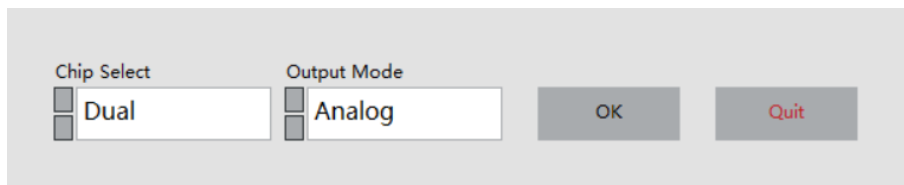
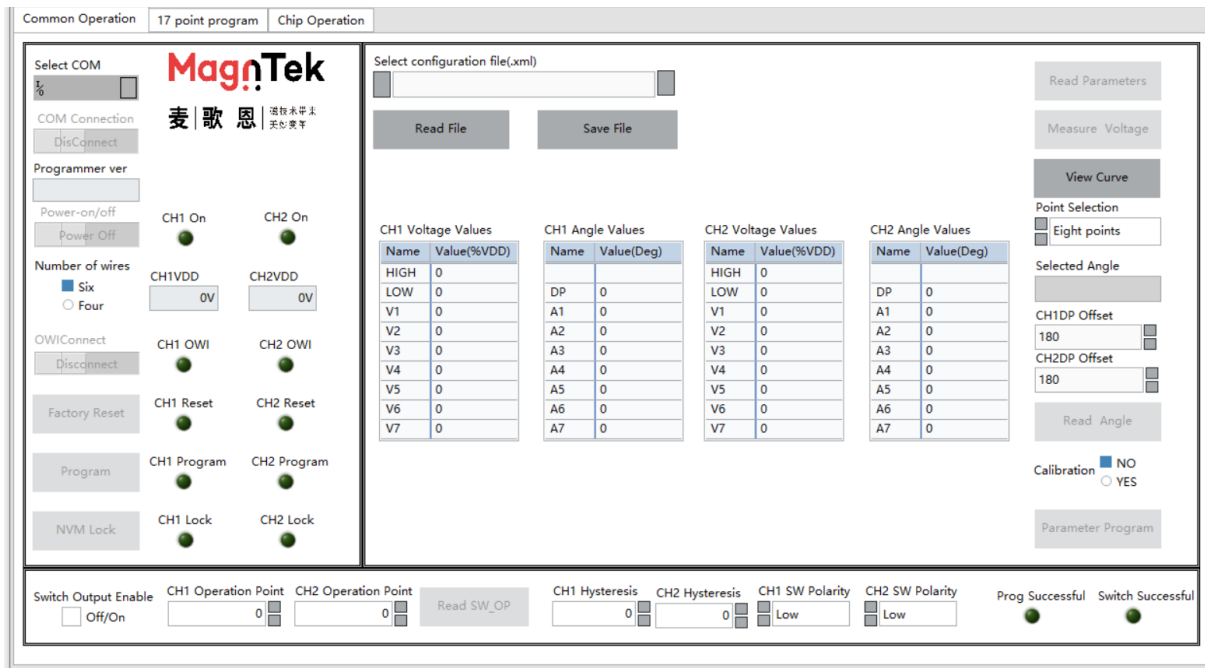

Figure 5.2.1 Chip mode selection
Figure 5.2.2 Dual chip analog output parameter configuration
- 3、 Double click on the "PB600-MT652xGUI. exe" file, open the software, and a chip mode selection interface will pop up (Figure 5.2.1). After selecting the "Dual" and "Analog" parameters, click "OK" to enter the programming interface for this mode (Figure 5.2.2).